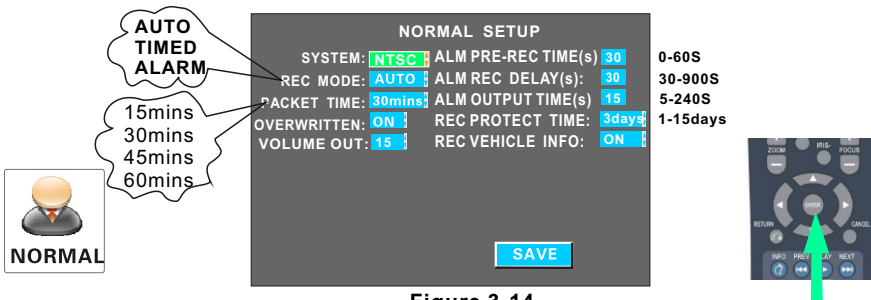

Figure 3-14
1. See Figure 3-14 in REC MODE select "TIME LIST" mode, then set the time for recording. Move option to the time needs. Press plus or minus key (number 8 or 9) and move to the numbers that need setup. Setup each time according to the number key.